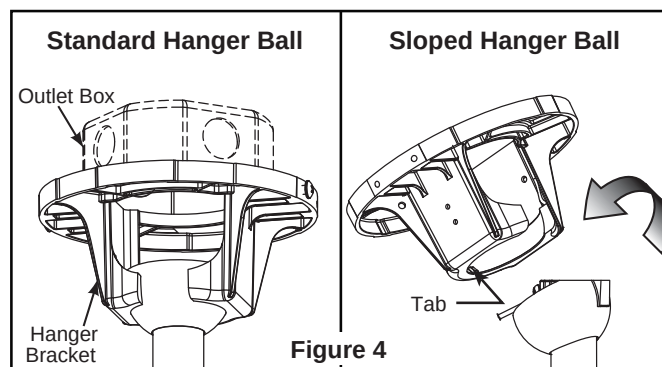

Figure 4
- ☐ 4. Route the wires through canopy trim ring assembly, motor coupling cover assembly and ceiling canopy. (Figure 4)
- ☐ 4. Completely remove one of each right-hand screw on either side of the flap of the hanger bracket and retain the screws for later. Loosen the remaining screws without fully removing it. (Figure 4)
Carefully lift the fan and seat the downrod/hanger ball assembly on the hanger bracket that was just attached to the outlet box (Figure 4). Be sure the groove in the ball is lined up with tab on the hanger bracket (Figure 3).